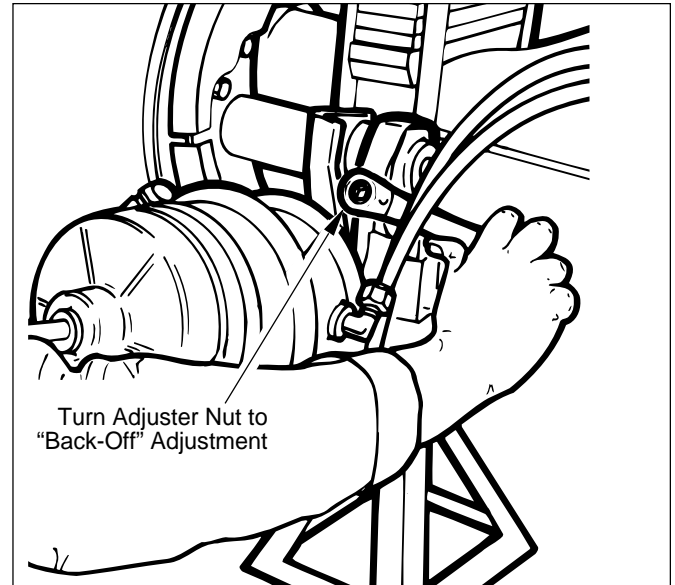

Figure 11. Brake Adjuster Adjustment
2. While depressing locking sleeve, back off brake adjuster adjustment nut on manual brake adjusters. Refer to Figure 11. Continue turning until shoes are fully returned to released position and clear of drum. On self adjusting brake adjusters, follow manufacturer’s instructions.